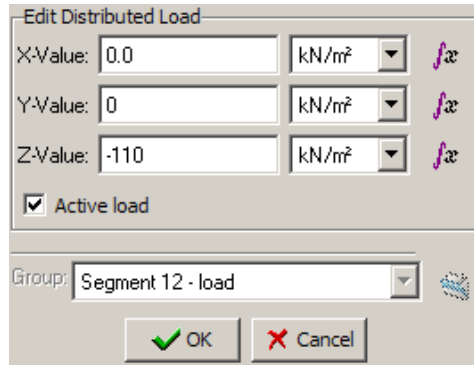

Figure 1.16 The *Edit Distributed Load* window
- Double click the first load group in the *Distributed Load* subtree to open its *Edit Distributed Load* window (see Figure 1.16). Select the option *Active load* and change the value in *z*-direction to -110 kN/m² and click *OK*.